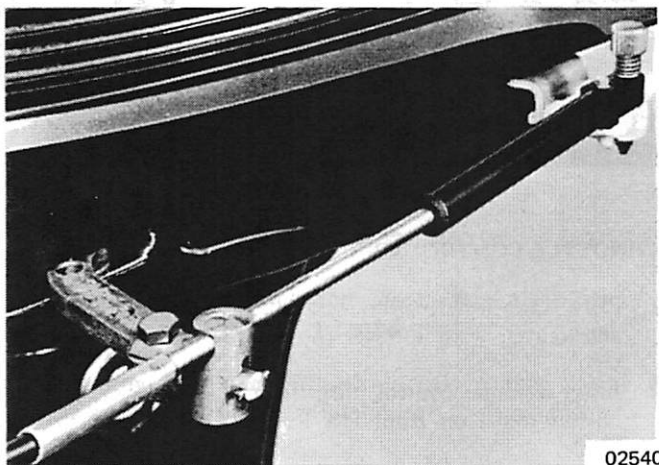

Figure 1. Throttle Cable Installed
4. Attach brass throttle barrel and anchor pin on motor. (Figure 1) Note that shift cable travels first, throttle cable second, when moving control handle.